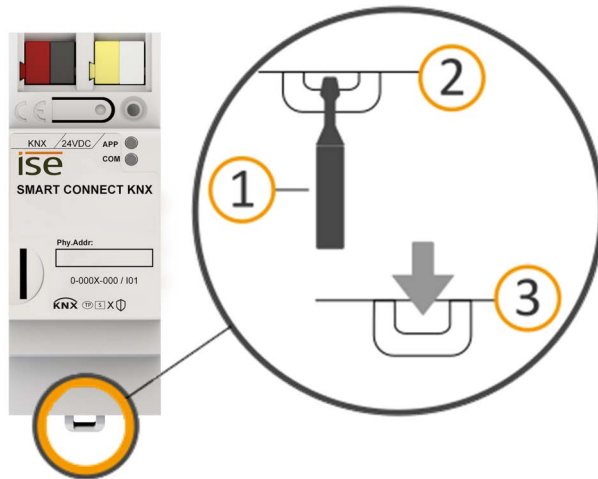

Figure 29: Detaching the device from the top-hat rail
1. Insert a screwdriver (see figure 29, item 1) into the release lever (see figure 29, item 2) and push the release lever down (see figure 29, item 3).